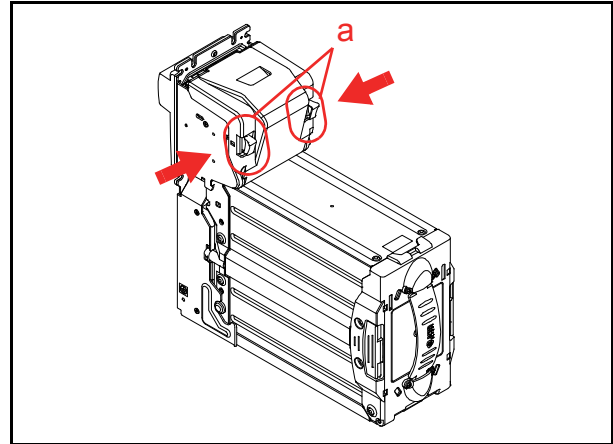

Figure 20 JAM Clear 1
1. Press the Unit Guide Open/Close Latches (Figure 20 a).